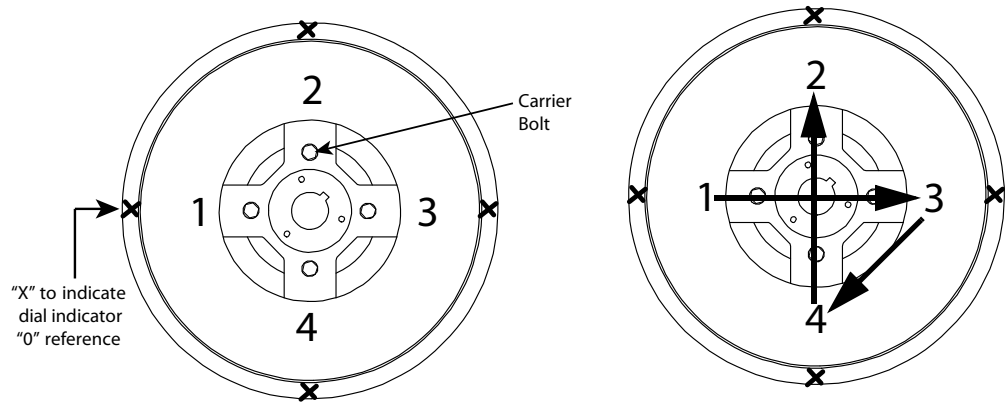

Figure 43 - Number and Tighten the Sheave Carrier Bolts
3. Number the four (4) drive sheave carrier bolts, and make four (4) marks on the outer edge of the drive sheave corresponding to the bolts. See Figure 43.